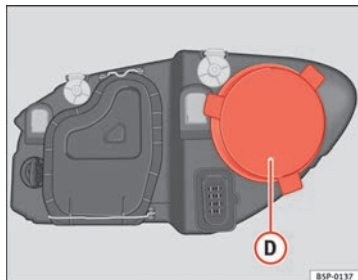

Fig. 194 Side light
- Remove the cover ⇒ Fig. 194 **D** by pulling on this.